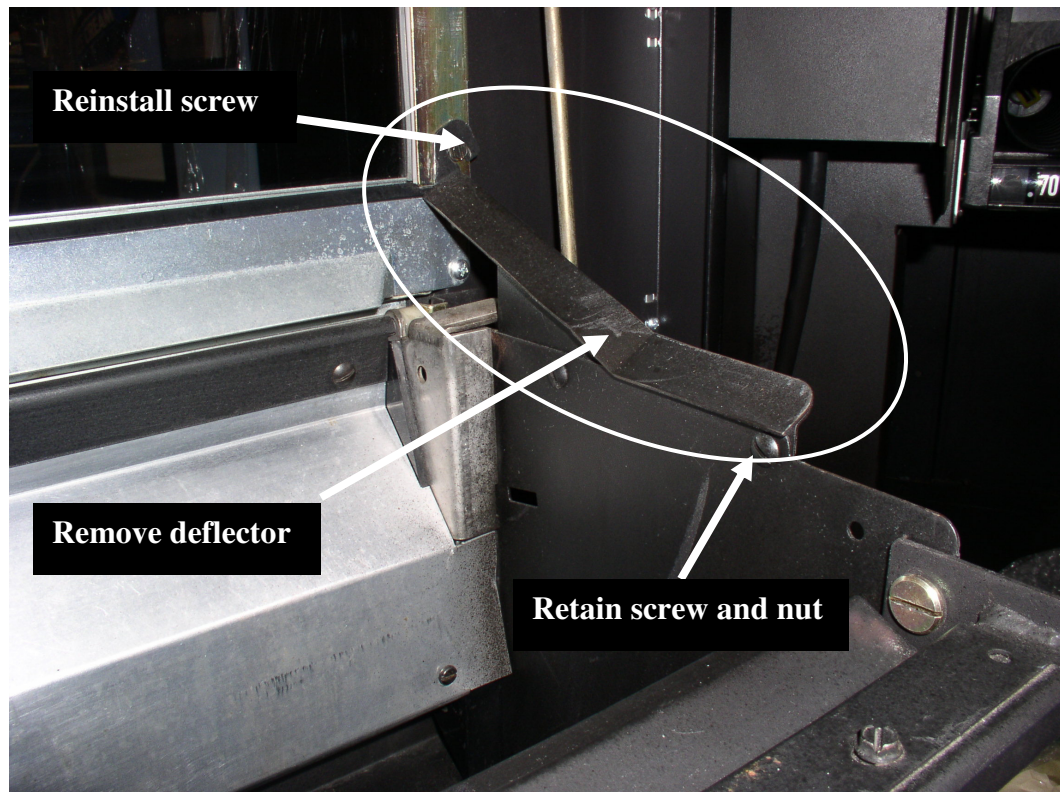

Figure 1 (typical representation)
1) Remove deflector. Reinstall screw removed from front glass frame. Retain screw and nut removed from delivery bucket. **(Figure 1)**